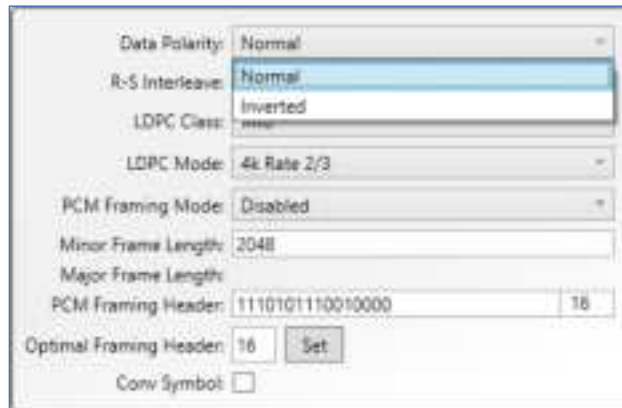

Figure 167: Encoder Hamburger Menu, Data Polarity Drop Down Menu
- Data Polarity – Values are Normal or Inverted; useful when the data stream starts out inverted, in effect, un-inverts the data; use the drop down menu to select, as shown in Figure 167